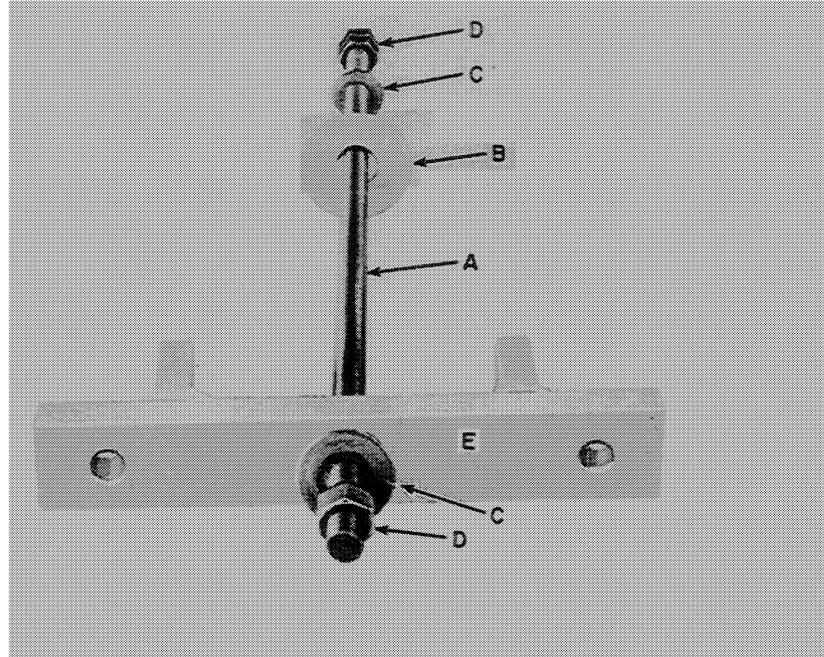
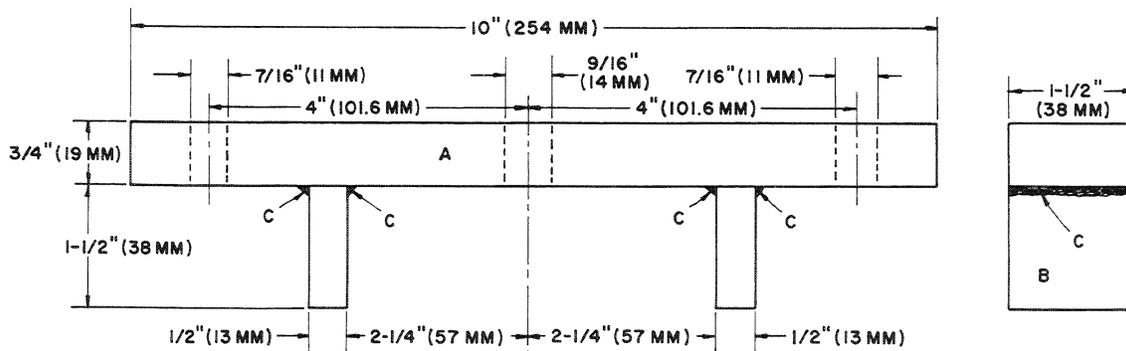
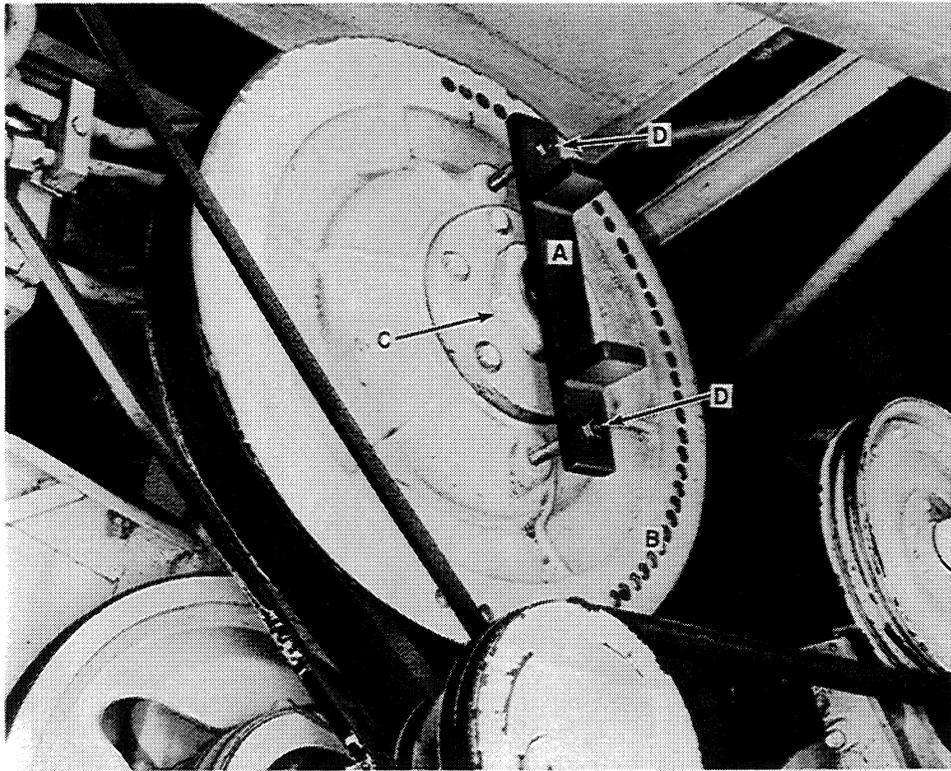

FIGURE 16
FIGURE 17
FIGURE 18
TORQUE SENSING DRIVE REMOVAL AND COMPRESSION TOOL (Figure 16)
Use a crossbar, E, Figure 16, and A, Figure 18, to remove the torque sensing drive assembly, B, Figure 18, as shown.
Loosen the nut or cap screw securing the torque sensing drive to the shaft. Thread either the nut or cap screw out until it extends $3/16$ " (4.8 mm) beyond the slug wrench nut, C, Figure 18. **NOTE: A longer cap screw may have to be installed to obtain the $3/16$ " (4.8 mm) dimension.**
Attach the crossbar, A, Figure 18, to the torque sensing sheave using two $3/8$ " x 3" cap screws, D.
To remove the torque sensing assembly, tighten evenly on cap screws, D, Figure 18. Use a hammer to tap on the center of bar, A.
- 1 All-thread rod - ½" x 16" (13 mm x 406 mm) UNC Gr. 5 (A, Figure 16)
- 1 #615906 special flat washer (¾" ID, 2" OD, 5/32" thick) (19 mm, 51 mm, 4 mm) or any suitable washer with a minimum ID of 9/16" (14 mm) and maximum OD of 2" (51 mm) (B, Figure 16)
- 2 Flat washers - ½" (13 mm) (C, Figure 16)
- 3 Hex nuts - ½" (13 mm) UNC (D, Figure 16)
- 1 Flat steel - (1½" wide, 10" long, ¾" thick) (38 mm, 254 mm, 19 mm) to make into compression tool bar, E, Figure 16. Fabricate as shown in Figure 17. Figure 17 shows a side view, A, and end views, B, of the tool bar. Weld at C, using the proper welding rod and welder amperage settings.